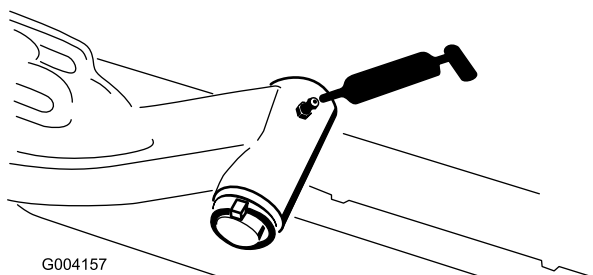

Figure 30
- Lift arm pivot shaft (1 each) (Figure 30)